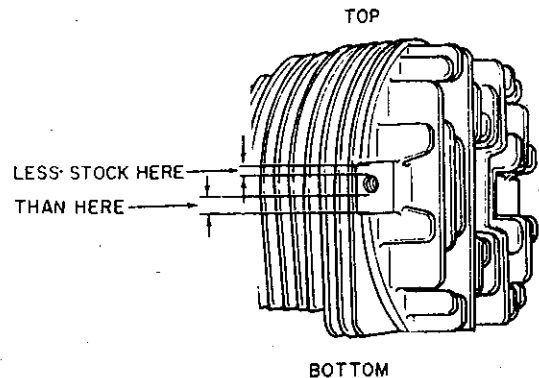

Figure 32
- N. The cylinder head on some early models can be installed in a way which appears correct but is wrong. The head may be like either shown, i.e., two flats around the circumference, or one. Important in any case is that the fuel tank bracket-mounting hole must have less stock on the boss toward the top of the engine when correctly assembled. (See Figure 32.) This is necessary so that the tank bracket-positioning slots allow alignment between the tank bracket and boss-mounting holes.